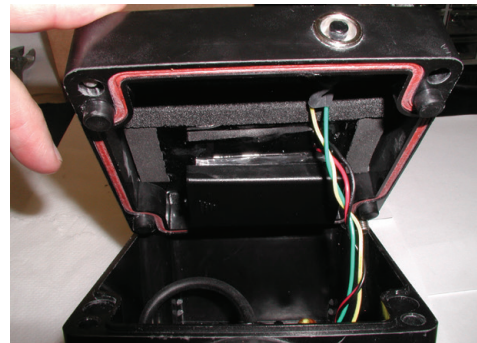

Figure 5: Proper position of lid and wiring
- Verify TEST button is facing down (see Figure 5).